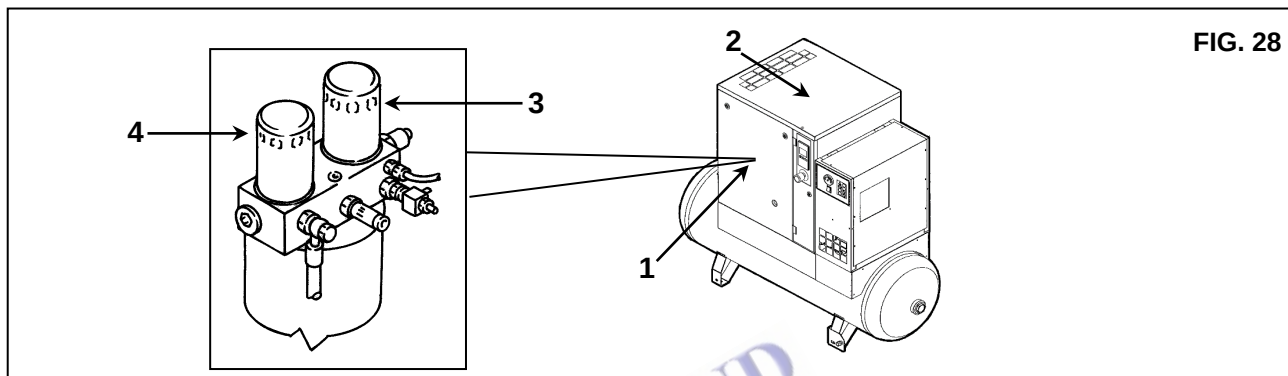

FIG. 28
23.0 REPLACE THE OIL SEPARATOR FILTER AND THE OIL FILTER (FIG. 28)
- Open the front panel Ref. 1 Fig. 28 with the special key.
- Remove the fixed protection device (machine cover) Ref. 2 Fig. 28.
- Remove the oil separation filter Ref. 3 and oil filter Ref. 4 Fig. 28.
- Close the fixed protection (machine cover) Ref. 2 Fig. 28 device again, using the appropriate safety screws.
- Close the panel Ref. 1 Fig. 28.